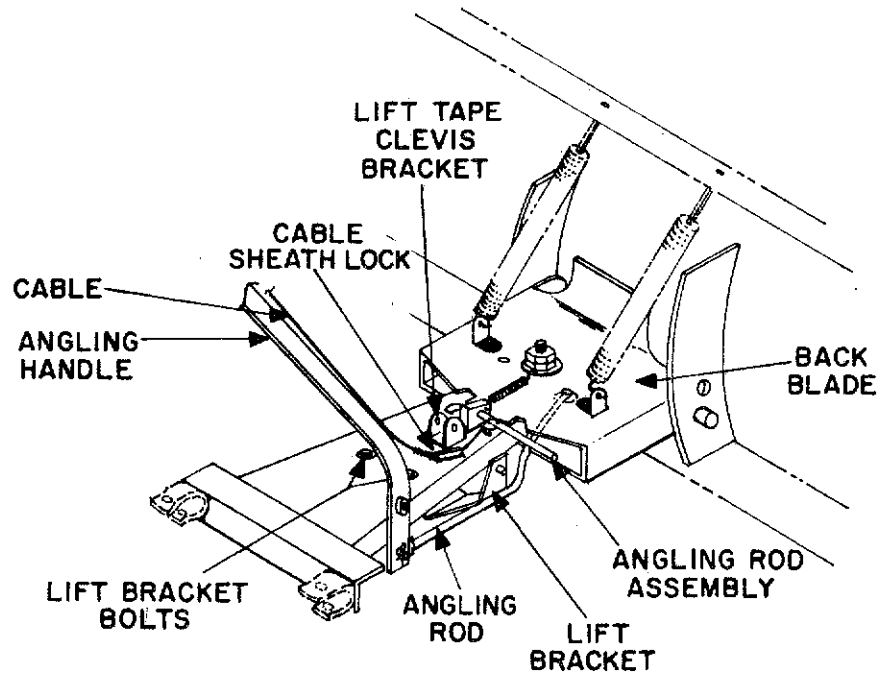

Figure 2: Angling Assembly Installation
4. Place the lift bracket below the push tube so its holes are aligned with those just drilled so the vertical side of the bracket is on the right side of the push tube. Secure with 3/8 - 16 x 3 bolts, lockwashers, and nuts. See Figure 2.